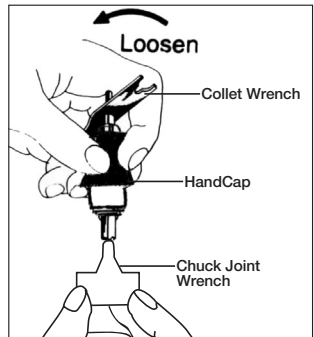

Fig. 6
2. Unscrew the hand cap by turning it counterclockwise while holding the handpiece (Fig. 6).
5. Hold the Hand Cap and Chuck Joint Wrench in one hand, and with the Collet Wrench in place on the Collet, loosen by turning the Wrench counterclockwise (Fig. 6).